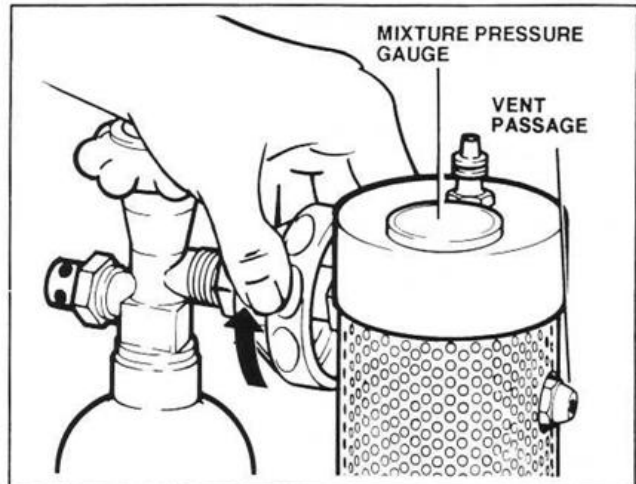
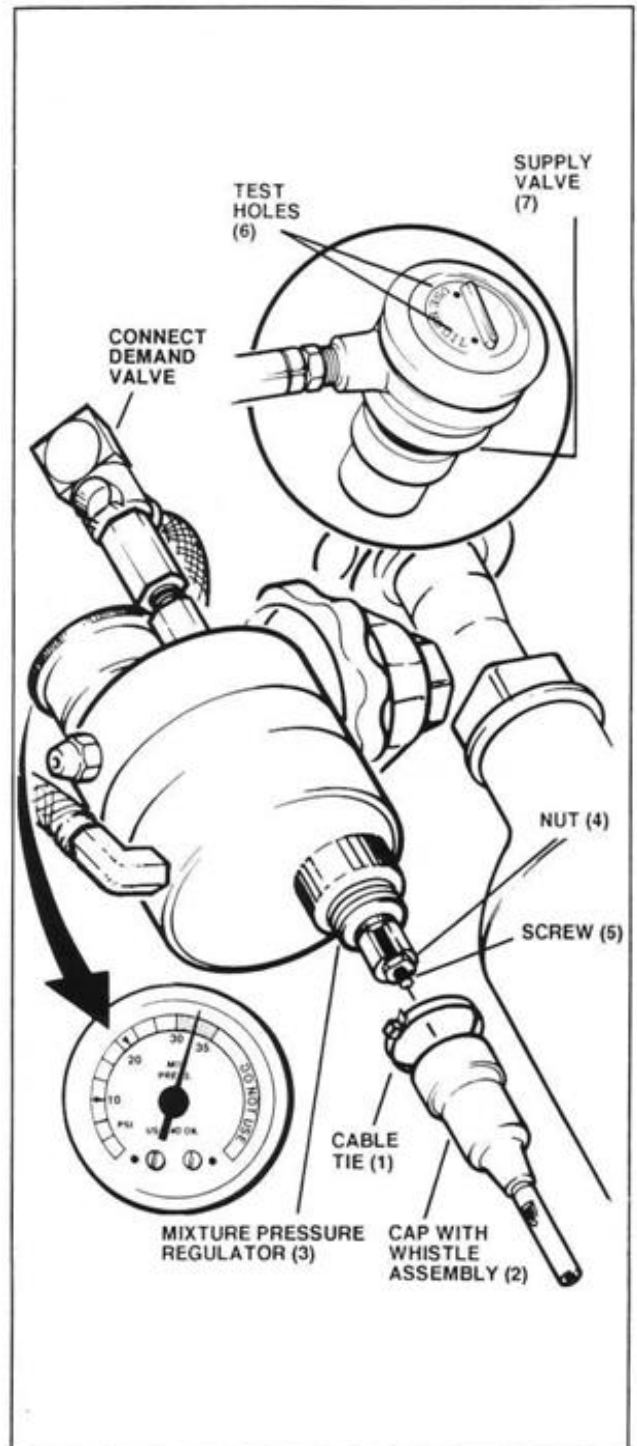

Figure 4. Attaching the Cylinder.
Figure 15. Mixture Pressure Adjustment.
4. Attach the nitrous oxide cylinder to the mixer assembly by turning the hand-wheel clockwise until it is "hand-tight" as shown in Figure 4.
To adjust the mixture pressure, refer to Figure 15 and:
2. (Fig.15) Carefully remove the two red end caps (not shown) on the mixer assembly.
4. Keeping tie and cap together, slide off the cable tie (1) and cap with whistle assembly (2) from the mixture pressure regulator (3) to expose the mixture pressure adjustment nut (4) and screw (5).
5. Attach cylinder **Section 2.1 Fig.4**. Turn on the unit **as described in Section 2.2**.
6. Use a wrench to loosen the 7/16 in. hex nut (4), approximately 1/4 turn (counterclockwise). With a screwdriver, turn the adjustment screw (5) in the center of the nut clockwise to decrease the pressure and counterclockwise to increase the pressure. Set the mixture pressure at the middle of the green band on the mixture pressure gauge.